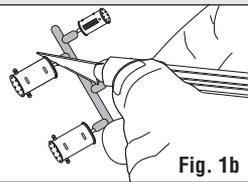

Fig. 1b
- Remove Details from sprue with a hobby knife (or flush cutting shears) (Fig. 1b). **NOTE:** Do not remove placement posts from Details.